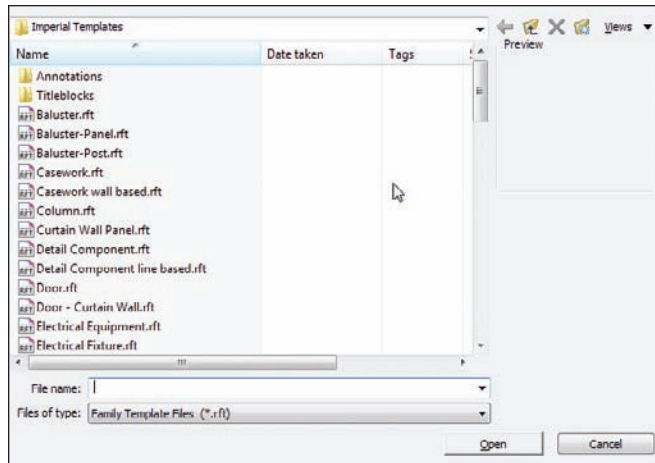

FIGURE 1.58 The creation of a family starts with templates.
1. Click the Application menu button, and select **New > Family** to open the browse dialog shown in Figure 1.58.